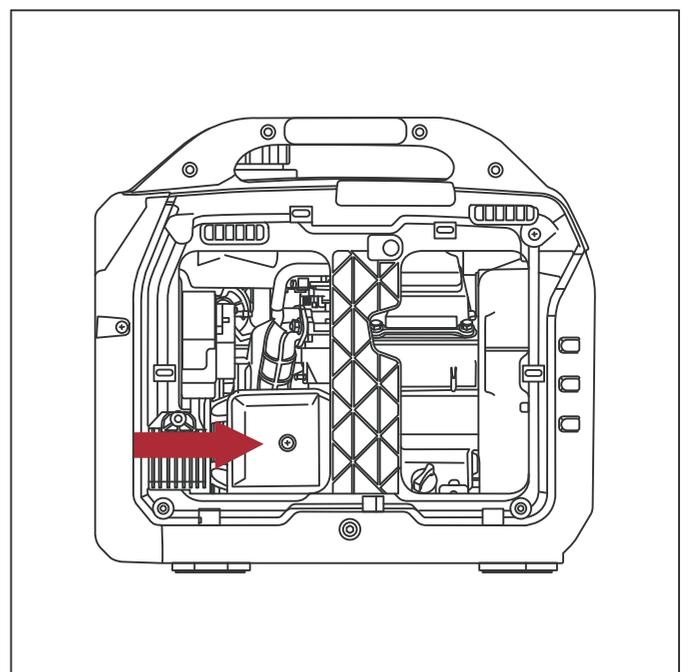

Fig.27
- 4 Remove the foam element from the air cleaner housing (see **Fig.27**).